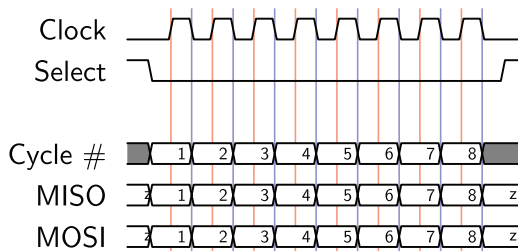

Figure 15-2. SPI timing diagram for the case when the clock starts out low ($CPOL=0$) and the data is required to be valid on a rising edge ($CPHA=0$)
In SPI, communication is controlled by the master, which asserts (lowers) the chip select (CS) line and then transmits a clock (CLK). The master reads the MISO (master in, slave out) line at the rising edge of the clock (see Figure 15-2 for an example). The slave watches for the CS line to go low and must place data on the MISO line before the rising edge of each clock cycle. We will use 32-bit wide words, with the most significant bit (MSB) transmitted first.